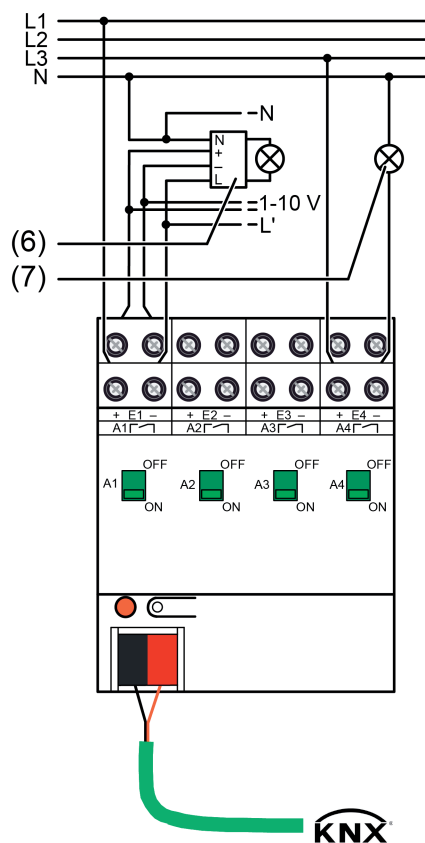

Figure 2: Connection example
- Connect the lamp operating devices (6) and optional additional consumers (7) according to the connection diagram (Figure 2).